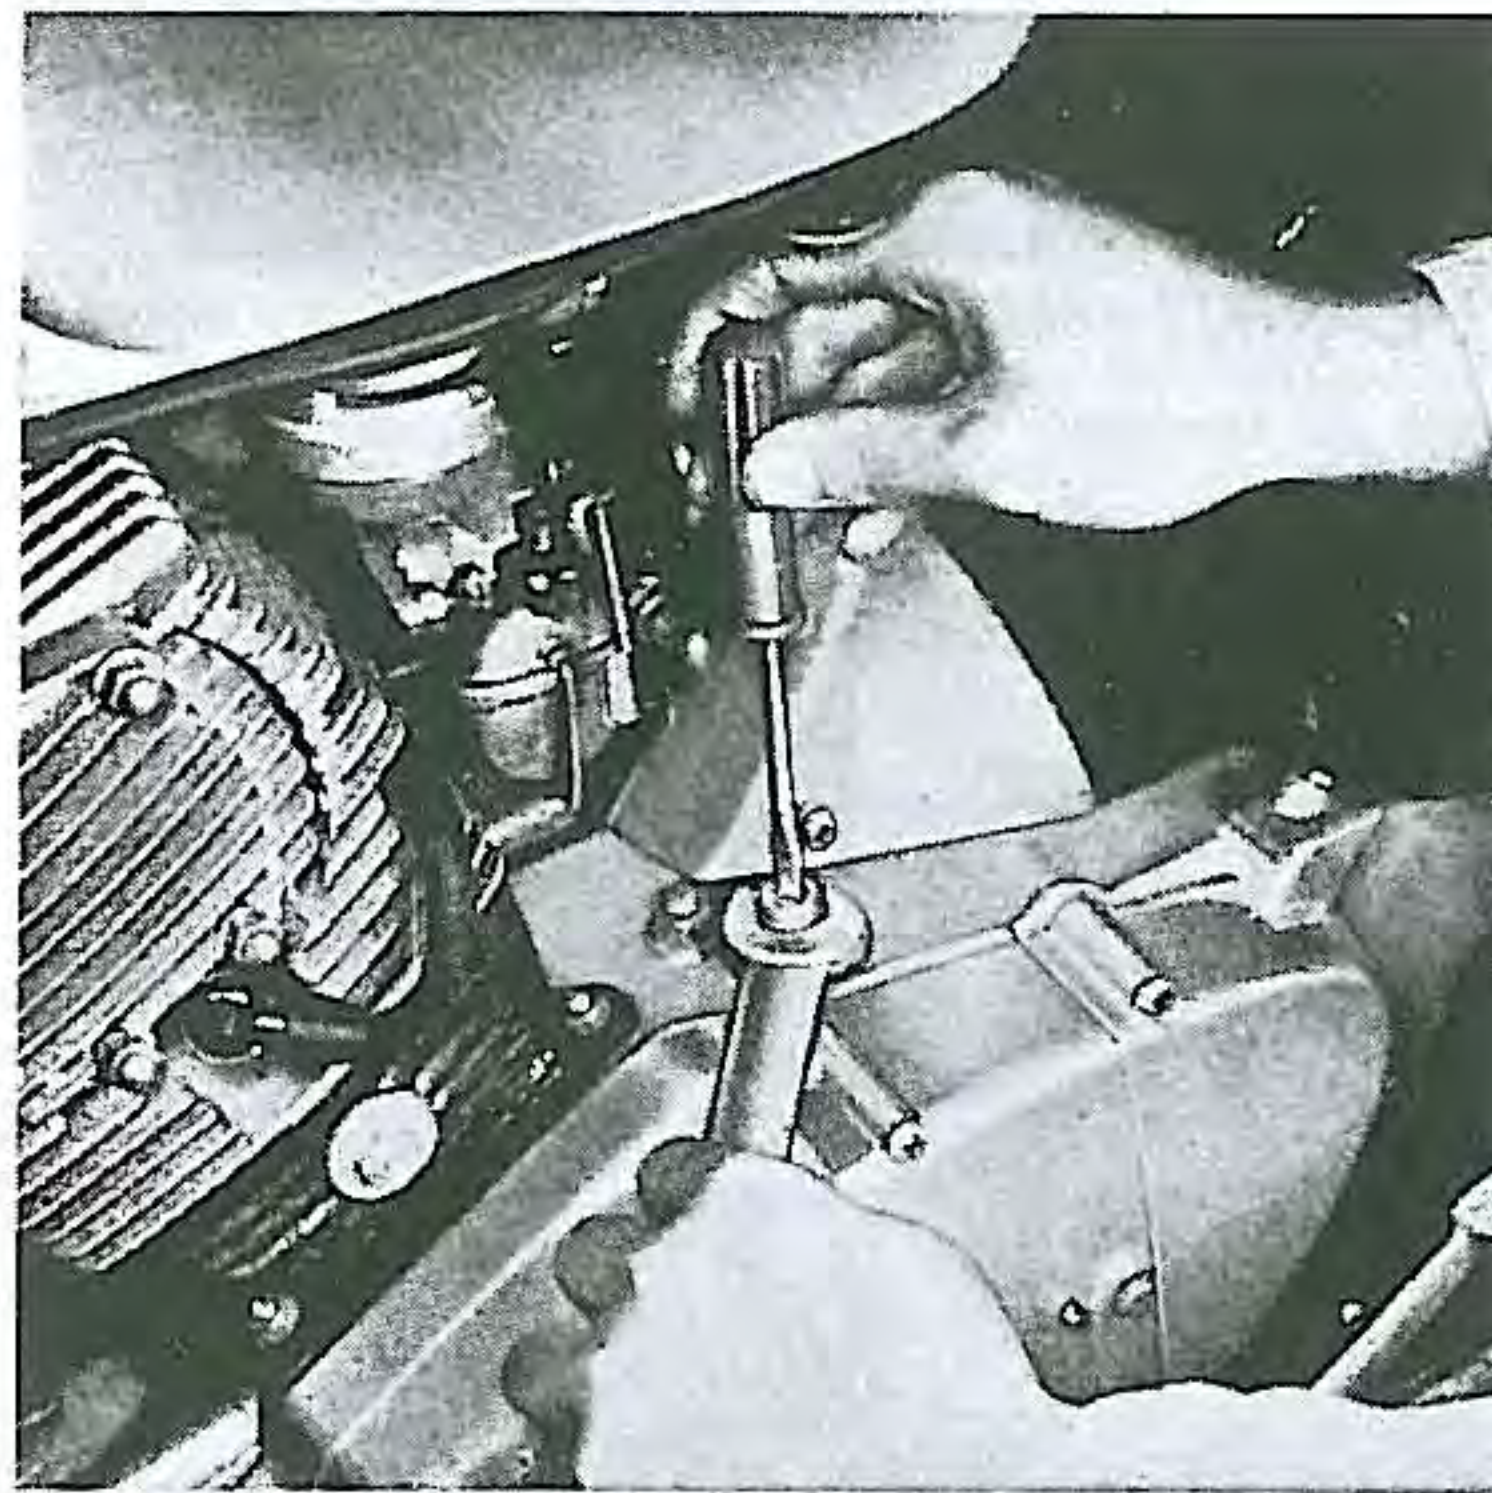

Fig. IV-9. Adjusting cam chain
- (1) Remove the rubber cap and loosen the cam chain adjusting lock nut and cam chain adjusting screw.
- (2) Remove the exhaust tappet hole cap and while watching the rocker arm, rotate the crank shaft in the reverse direction and then in the normal direction until the exhaust valve rocker arm starts to operate.
- (3) Turn the cam chain adjusting screw in until the tip just touches the cam chain tensioner spring guide. As this is not visible, determine when the screw touches the guide by feel.
- (4) Hold the adjusting screw with a screw driver and tighten the cam chain adjusting lock nut. (Fig. IV-9)